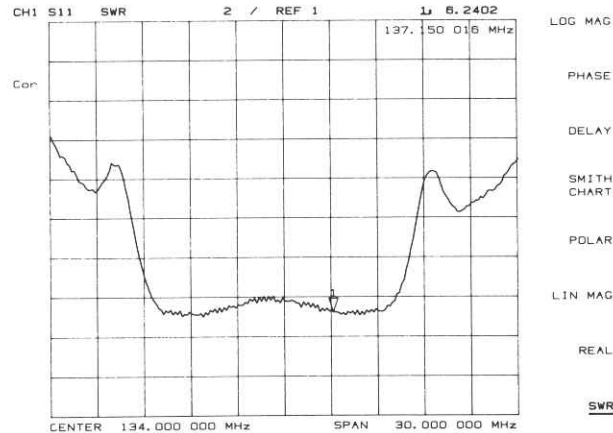

Figure 4-17. Typical SWR Display
**[SWR]** (SWR) reformats a reflection measurement into its equivalent SWR (standing wave ratio) value (Figure 4-17). SWR is equivalent to  $(1 + \rho)/(1 - \rho)$ , where  $\rho$  is the reflection coefficient. Note that the results are valid only for reflection measurements. If the SWR format is used for measurements of S21 or S12 the results are not valid.